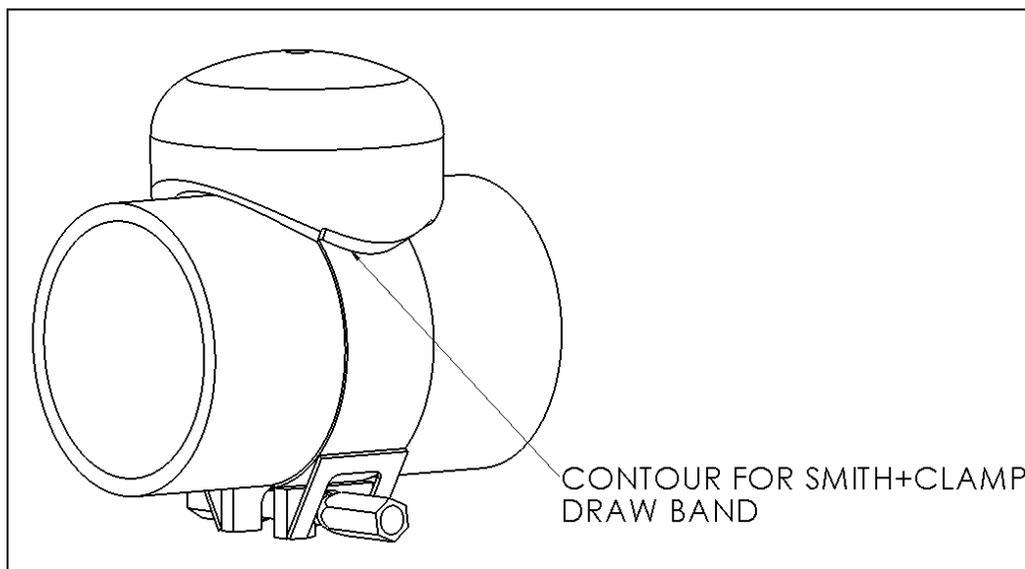

Figure 2
3. Align the Weld+Cap over the PLIDCO Smith+Clamp. The Weld+Cap is contoured to fit over the band and provide an equal weld gap (see Figure 2).